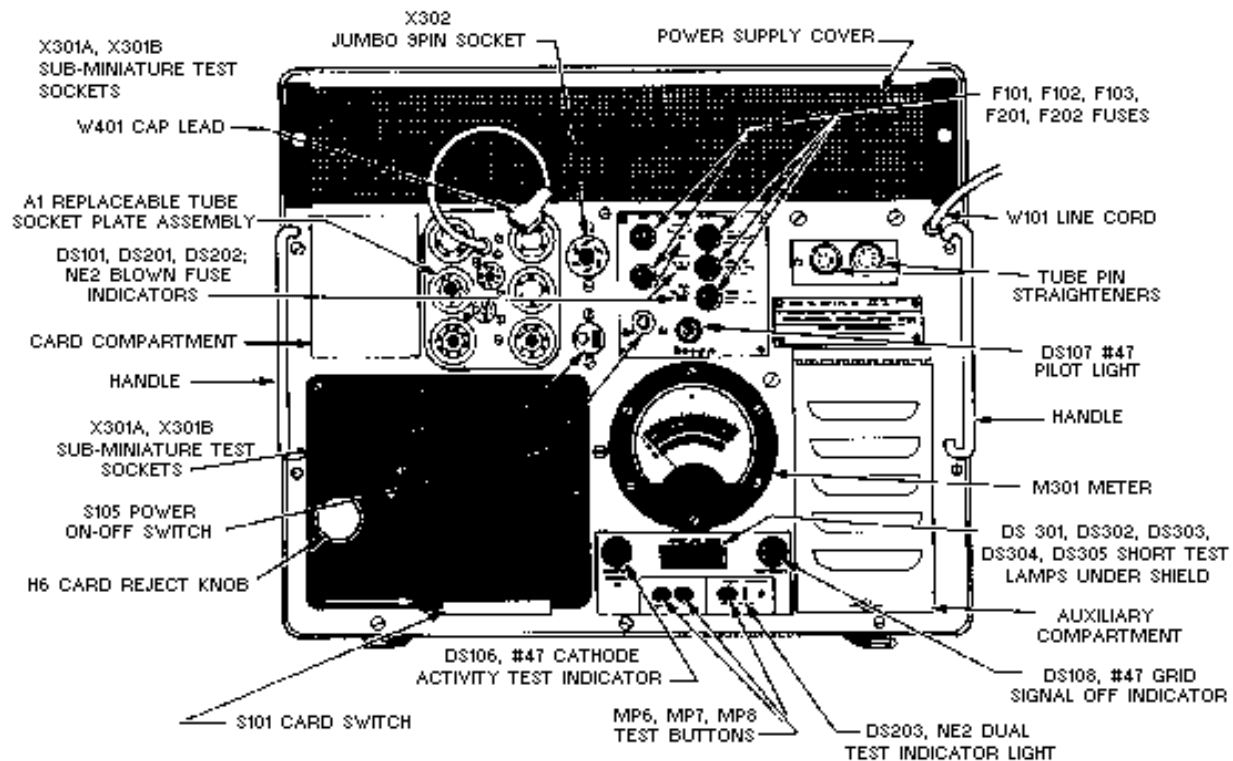
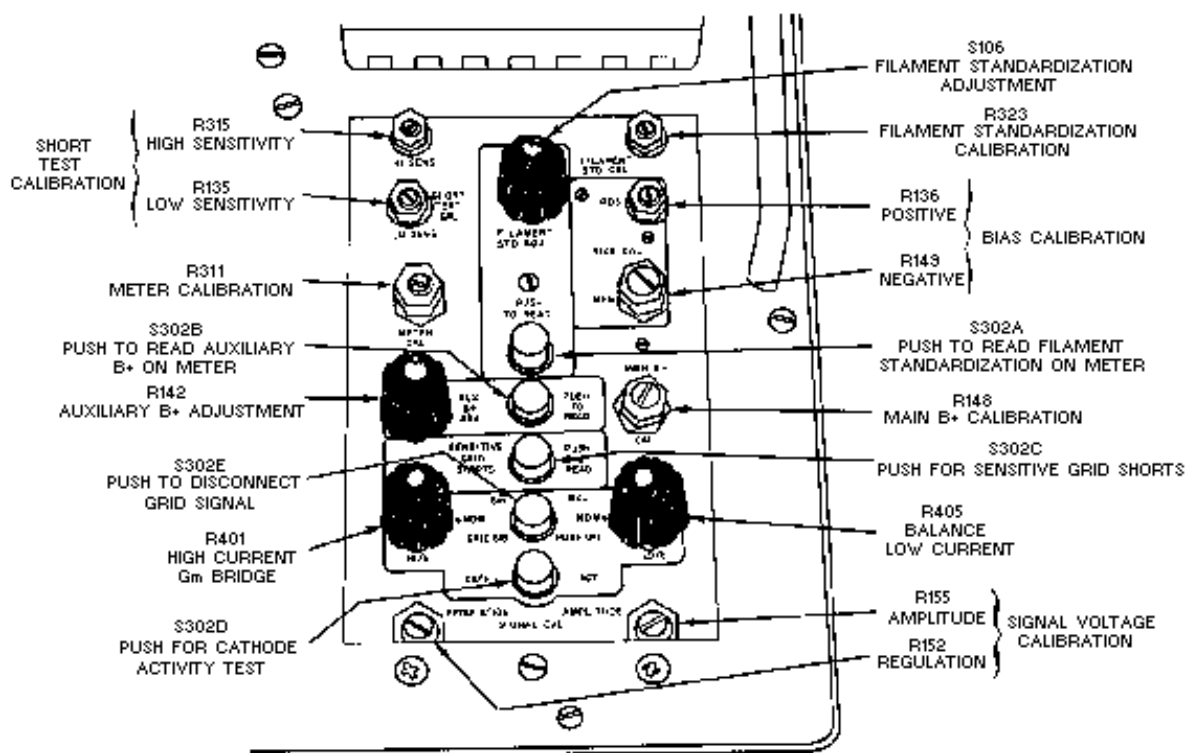

Figure 2-1.—Electron tube tester.
Figure 2-2.—Auxiliary compartment.
A representative field type of electron tube tester designed to test all common low-power tubes is shown in figure 2-1. The tube test conditions are as close as possible to actual tube operating conditions and are programmed on a prepunched card. The card switch (S101, fig. 2-1) automatically programs the tube test conditions when it is actuated by a card. A card compartment on the front panel of the tester provides storage for the most frequently used cards. The cover of the tester (not shown) contains the operating instructions, the brackets for storing the technical manual, the power cord, the calibration cell for checking the meter and short tests, the calibration cards, the blank cards, and a steel hand punch.
A group of auxiliary controls covered by a hinged panel is used for special tests and for calibration of the tester. Two of these controls, labeled SIGNAL CAL (R152 and R155, fig. 2-2), are used with special test cards for adjusting the regulation and amplitude of the signal voltage. A pushbutton labeled CATH ACT (S302D) is used for making cathode activity tests. When this button is pressed, DS106 on the front panel (fig. 2-1) lights, and the filament voltage of the tube under test is reduced by 10%. Results of the test are read as a change in reading on the numerical meter scale.
Pushbutton S302E and potentiometers R401 and R405 (fig. 2-2) are used for balancing the transconductance (Gm) bridge circuit under actual tube operating current. Pressing S302E removes the grid signal and allows a zero balance to be made with one potentiometer or the other, depending upon whether the tube under test is passing high or low plate current. Lamp DS108 on the front panel lights when S302E is pressed. Pushbutton S302C is used for checking grid-to-cathode shorts at a sensitivity much higher than the normal tests. Results of this test are indicated by the short test lamps on the front panel.
Before operating the tester, open the auxiliary compartment (fig. 2-2) and ensure that the FILAMENT STD ADJ and the Gm BAL knobs are in the NOM position. The GRID SIG and CATH ACT buttons (S302E and S302D) should be up and lamps DS108 and DS106 on the front panel should be out.
Turn on the tester and allow it to warm up for 5 to 10 minutes, then press the CARD REJECT KNOB (fig. 2-1) down until it locks. If a nontest card is installed in the card switch, remove it. This card is used to keep the switch pins in place during shipment and should be inserted before transporting the tester.
To make the **QUALITY** test, push the number 2 button (fig. 2-1) and read the number 2 scale on meter M301 to determine if the tube is good. (This test may be one of various types, such as transconductance, emission, plate current, or voltage drop, depending upon the type of tube under test.)
**AUXILIARY TEST.**—As mentioned previously, two special tests (cathode activity and sensitive grid shorts) may be made by use of controls located in the auxiliary compartment (fig. 2-2). The cathode activity test (CATH ACT) is used to indicate the amount of useful life remaining in the tube. By reducing the filament voltage by 10 percent and allowing the cathode to cool off slightly, the ability of the cathode as an emitter of electrons can be estimated. This test is made in conjunction with the normal quality test.
To make the CATH ACT test, allow the tube under test to warm up, press button number 2 (fig. 2-1), and note the reading of scale number 2 on meter M301. Note also the numerical scale reading on M301. Next, lock down the CATH ACT button (fig. 2-2), wait for about 1.5 minutes, then press button number 2 (fig. 2-1) again and note the numerical and number 2 scale readings on meter M301. The tube should be replaced if the numerical reading on M301 differs from the first reading by more than 10 percent or if the reading is in the red area on the number 2 scale.
It is sometimes desirable to check certain tubes for shorts at a sensitivity greater than normal. To make the **SENSITIVE GRID SHORTS** test, push S302C (fig. 2-2) and note if any short test lamps (fig. 2-1) light.